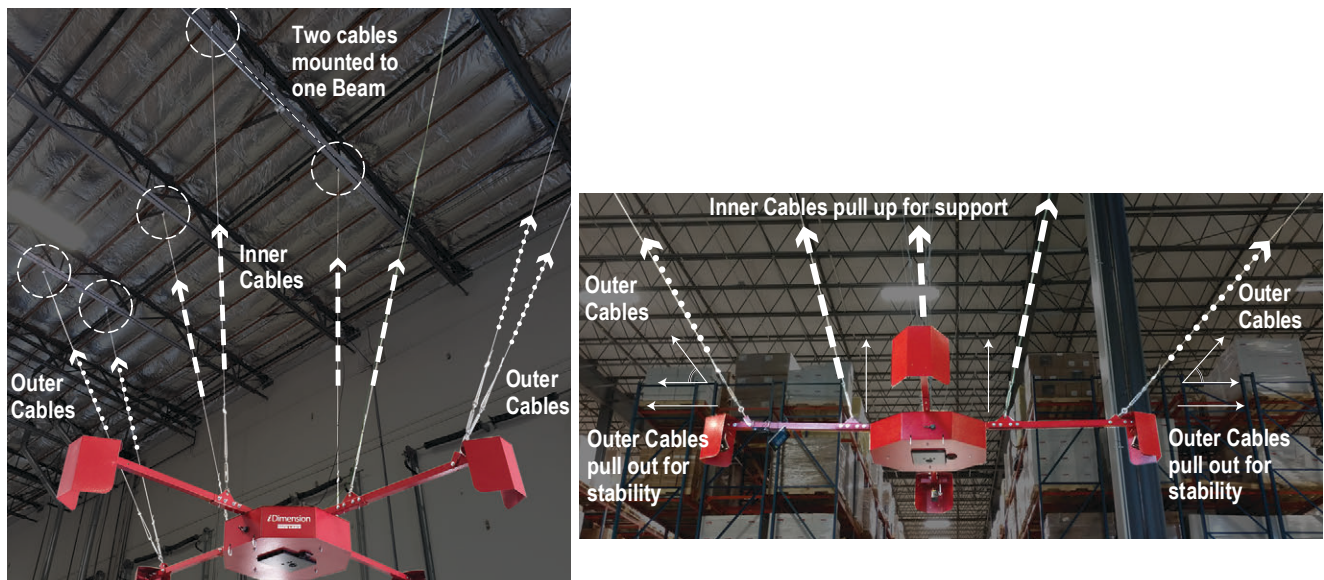

Figure 2. iDimension Cables
12. Adjust turnbuckles to an even opposing tension to support the dimensioner as in Figure 2 on page 2. Outer cable will provide stability.